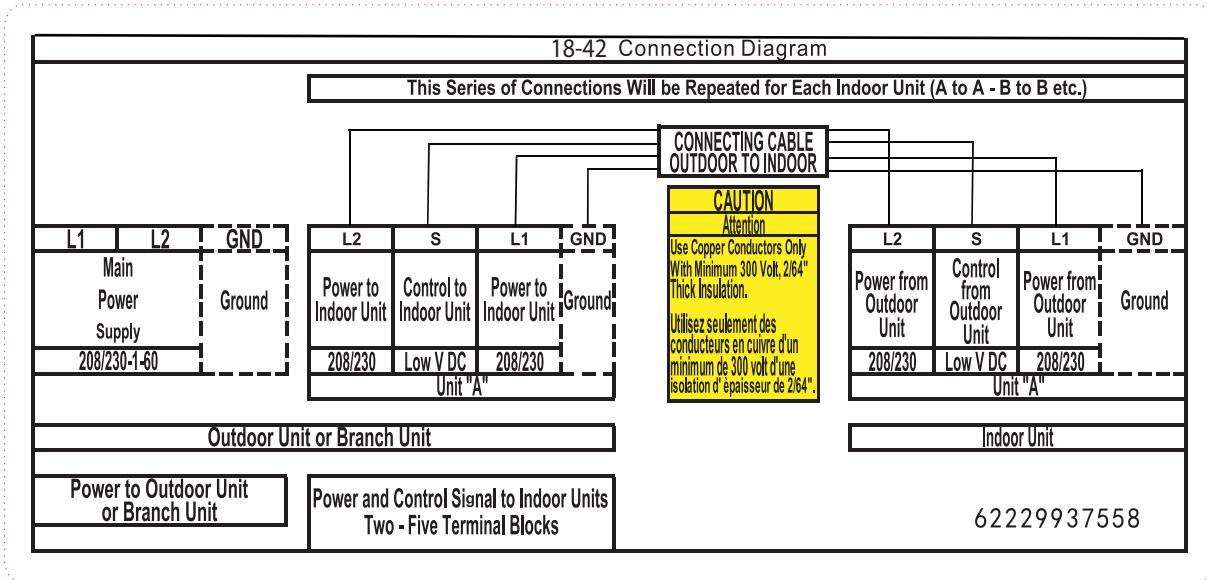

Fig. 19 – Connection Diagram Outdoor Multi-zone Sizes 18–42
6. Connect wiring from outdoor unit per connection diagram (see Fig. 19 and 20).